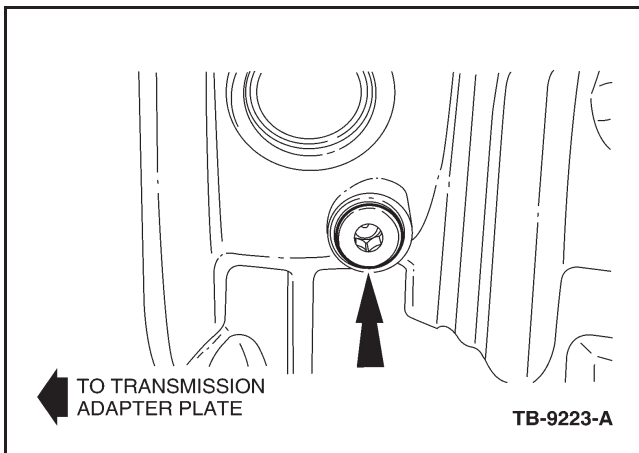

Figure 11 - Article 08-23-1
11. Remove the right hand (RH) cylinder block drain plug and drain the cylinder block. (Figure 11)